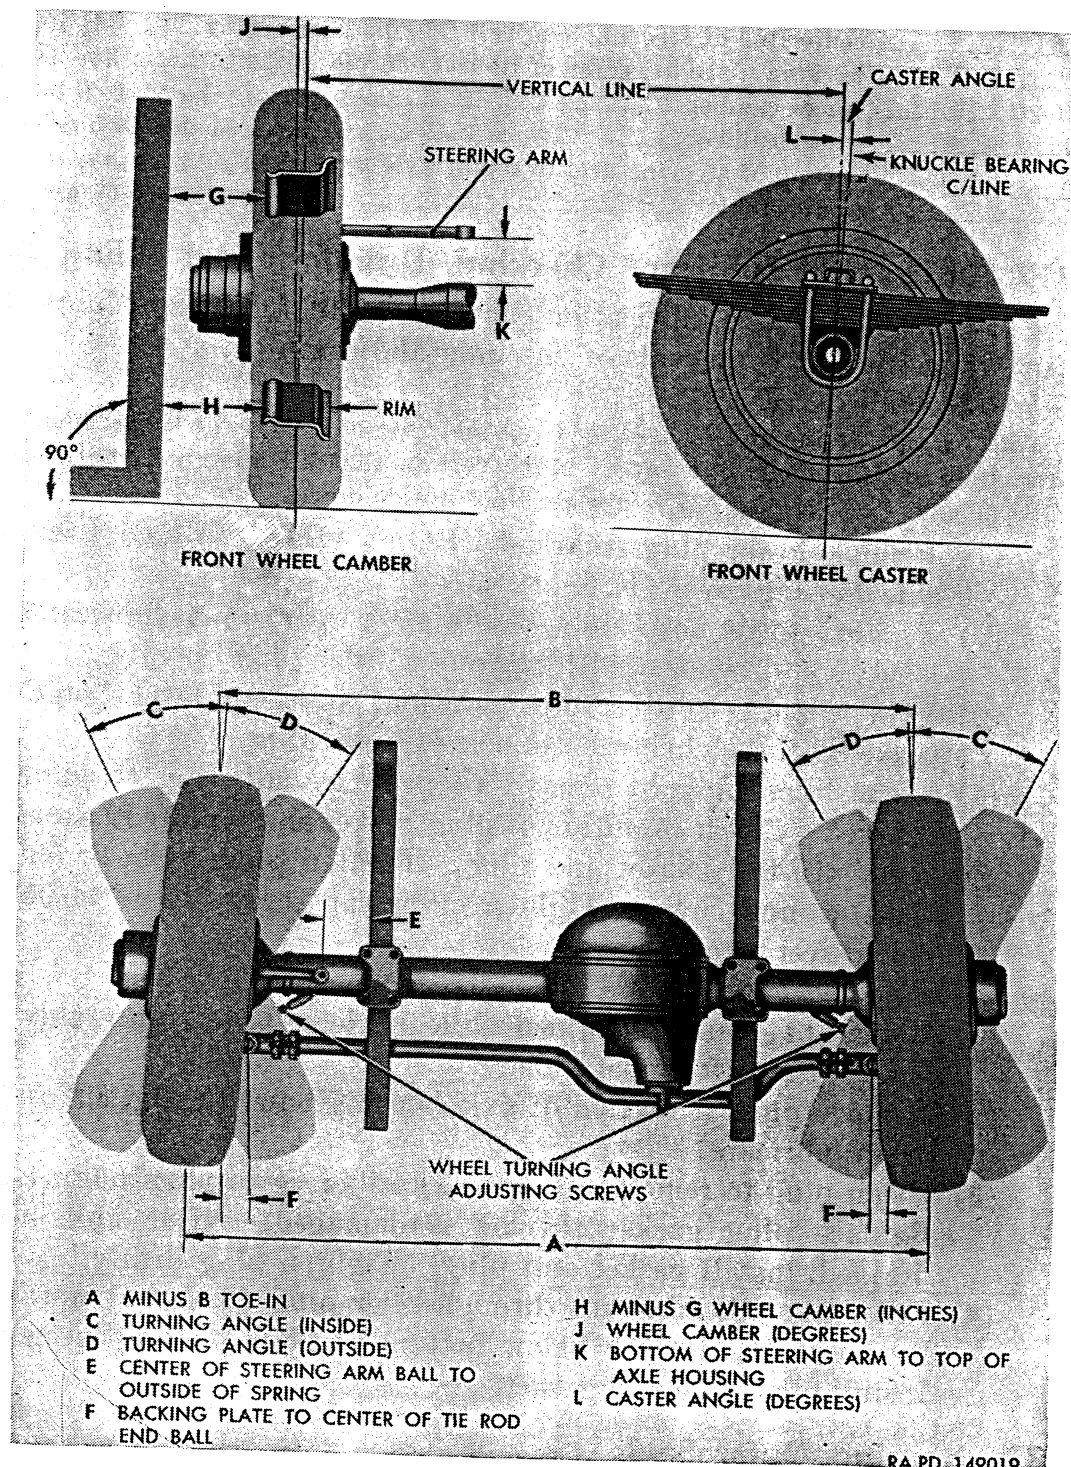

Figure 225. Front wheel and axle alignment chart.
*b. Caster.* Front axle caster (L, fig. 225) is the inclination of the centerline through the upper and lower steering knuckle support trunnion bearings toward the rear of the vehicle. Caster is established by design; therefore no adjustment can be made. The axle is given
*c. Camber.* Camber is the sidewise inclination of the front wheels. Positive camber is the outward inclination of the wheels as viewed from the front of the vehicle; that is, the wheels are farther apart at the top than at the bottom (H-G, fig. 225). Camber is established by design; therefore no adjustment can be made. A bent axle housing, bent steering knuckle, loose steering knuckle support trunnion bearings, or loose wheel bearings will affect camber. Unequal camber will cause vehicle to pull toward side having most camber. Camber may be measured with a square and rule in manner illustrated in figure 225. Camber dimensions given in *f* below are for straight-ahead position only and must be checked with axle installed on vehicle.
*d. Toe-in.* Toe-in is the amount which the front wheels are closer together at the front than at the rear (A-B, fig. 225). An adjustable tie rod, connecting the two steering knuckle supports, is used to adjust toe-in. Camber causes both wheels to tend to turn outward from the vehicle; however, by adjusting tie rod to give wheels proper toe-in, the tendency to turn outward is counteracted and the wheels roll straightahead with no scuffing action on tires. Toe-in is affected by loose wheel bearings, bent axle housing, bent steering knuckle, loose steering knuckle support trunnion bearings, or a bent or improperly adjusted tie rod. Improper toe-in causes excessive tire wear or scuffing. Unequal toe-in may cause the vehicle to pull toward the side having the least toe-in. When wheels are turned from straightahead to either right or left, toe-in changes, until at extreme right or left positions they are farther apart at the front than at the rear. This condition is termed toe-out. Always measure toe-in with wheels in straightahead position, by actually measuring A-B as shown in figure 225 and described in paragraph 220. Toe-in dimensions are given in *f* below.
*e. Turning Angle.* The turning angle is the maximum angle through which the front wheels may be turned to right or left from the straightahead position. This angle is greater for the inside wheel than the outside wheel on a turn. The turning angle for the inside wheel is shown as C, figure 225, and the turning angle for the outside wheel is shown as D, figure 225. Stop plugs, threaded and welded in housing, are provided to limit the angle through which the inside wheel can turn. Refer replacement and adjustment of stop plugs to ordnance maintenance personnel.